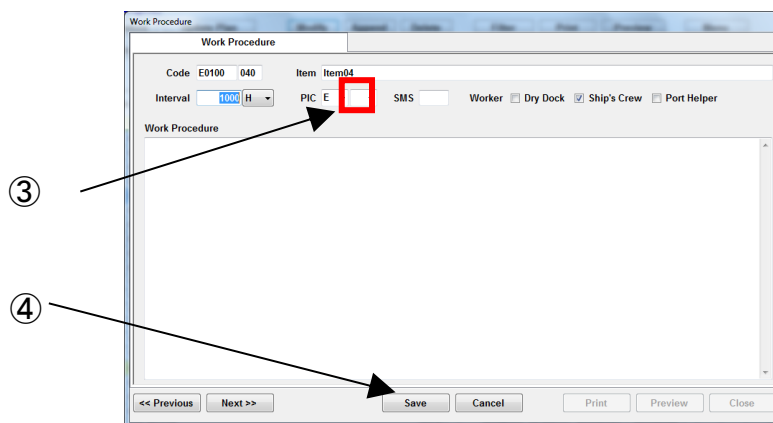

Fig.10-12 Work Procedure Screen
- (2) “Work Procedure screen” (Fig.10-12) is displayed.
- (3) You can modify only “number” of PIC. (Dept. Code (“D”/”E”/”R”) can not be modified)
- (4) Select [Save] button. Then, select [Close] button to close dialog.